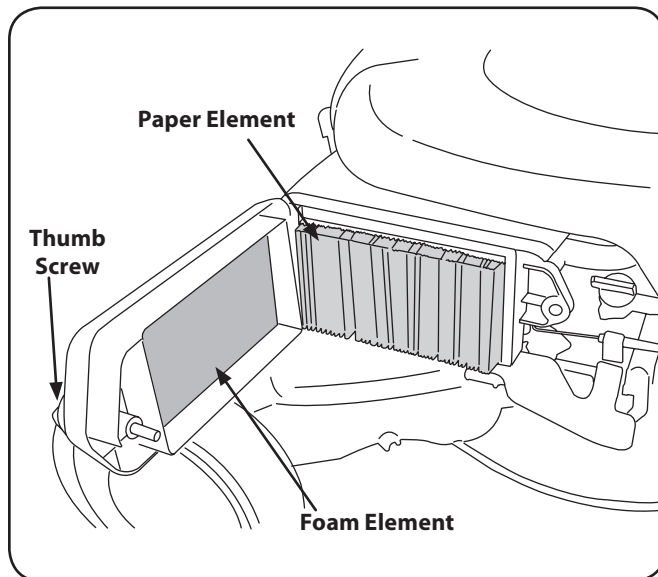

Figure 6-3
1. Remove the thumb screw and the air filter cover. Remove the foam and paper elements. See Fig. 6-3. Replace paper element when dirty or damaged. Clean foam element or replace when damaged.